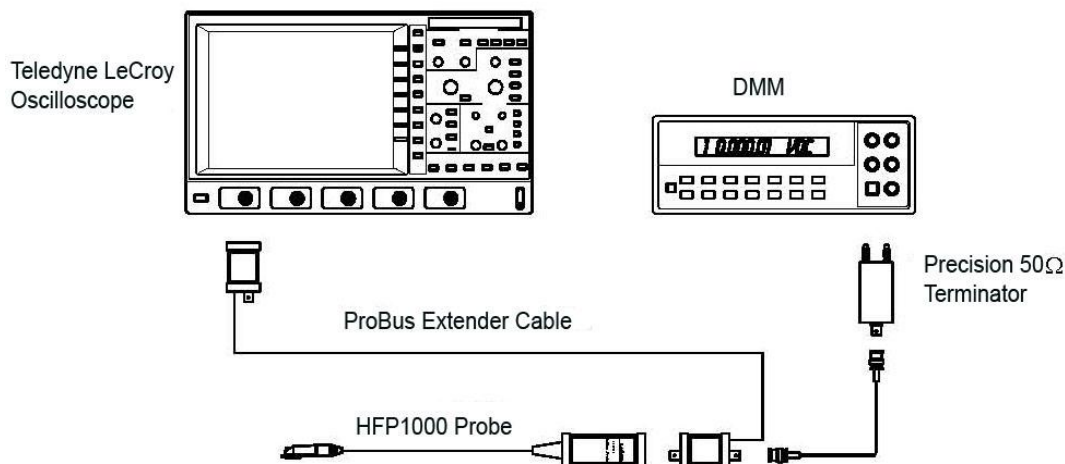

Figure 4 Output Zero Voltage Test Setup
2. Connect the banana plugs of the Precision terminator to the input of the DMM. Make sure that the plug corresponding to the BNC shield (marked "Ground") is connected to the **LO** or **COMMON** input of the DMM. Refer to Figure 4 Output Zero Voltage Test Setup for setup information.